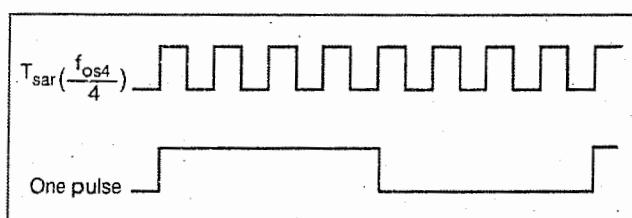

Fig. 11.5.2 : Measuring period of pulse in capture mode
- Fig. 11.5.2 shows how capture mode is used to measure the period of a pulse applied to the CCP1 pin of the CCP module in terms of the system clock period. Generally the measurement is done with respect to  $\frac{f_{osc}}{4}$ .